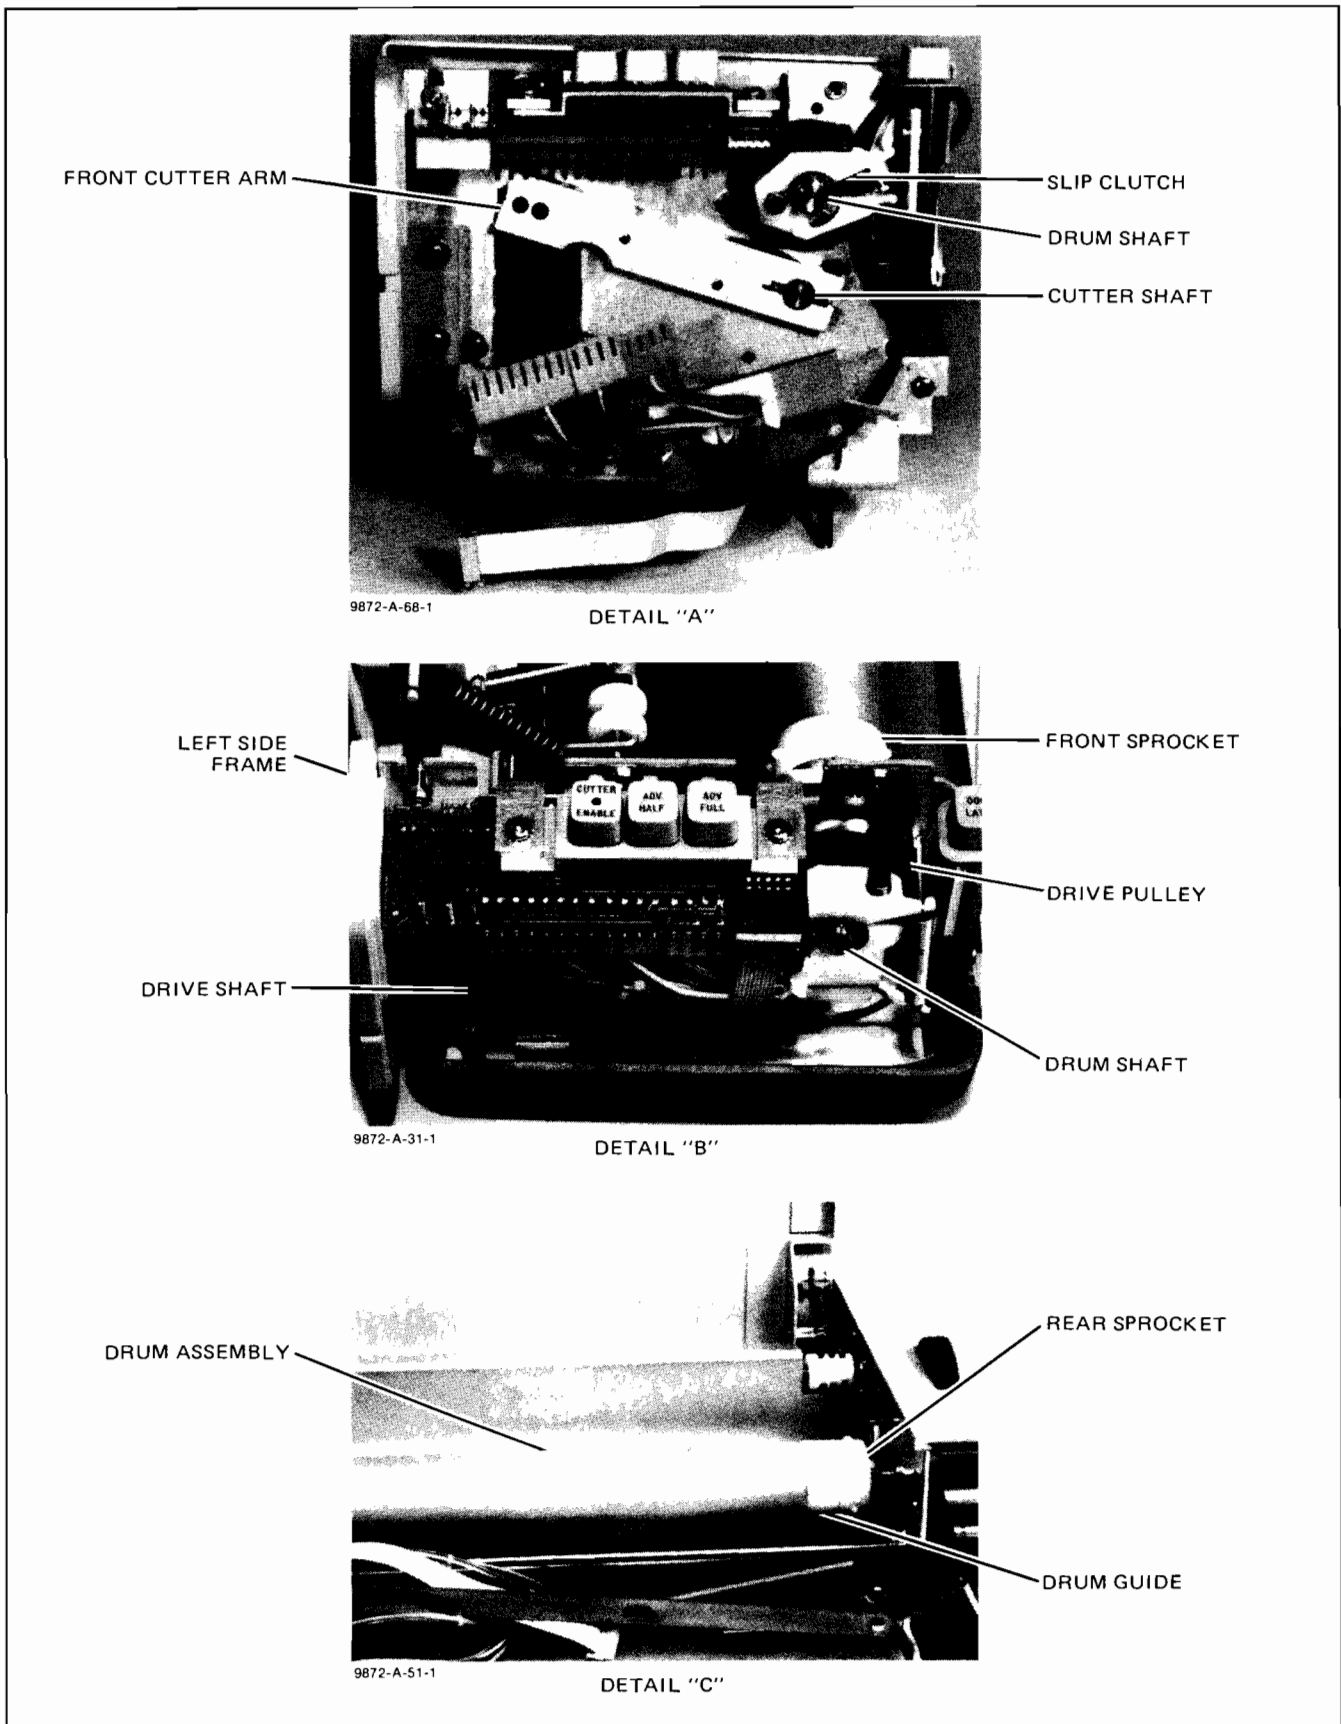

Figure A6-9. Drum Assembly/Sprocket Replacement
- e. Remove the slip clutch assembly. See Figure A6-9.